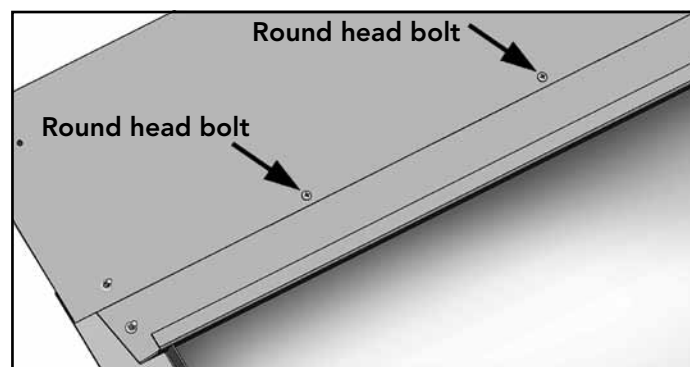

Figure 4
4. Attach the extension panel to the door header panel at all inside lower holes locations using 1/4"-20 x 1/2" round head bolts as shown in Figure 4.